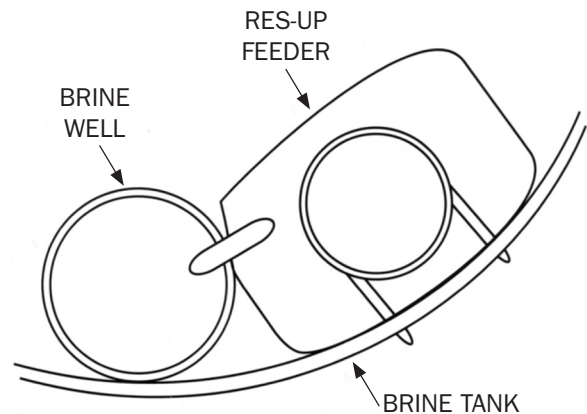

Figure 1
2. Attach bracket to Res-Up Feeder (plastic container) and position in brine tank next to brine well as shown in **Figure 1 on the front of this sheet.**